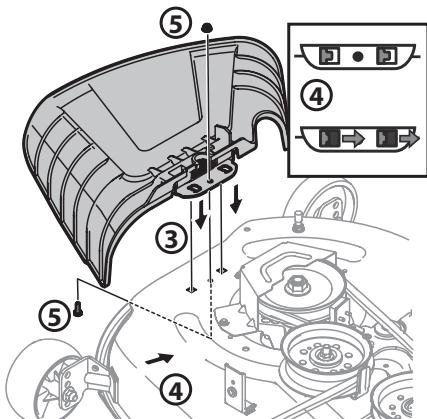

Figure 8
3. Place the chute deflector on the deck, be sure to insert the tabs on the chute deflector into the holes on the deck. See Figure 8.
4. Slide the chute deflector toward the rear of the tractor until the bolt hole in the chute deflector aligns with the hole in the deck. See Figure 8.
5. Secure the chute deflector in place with the flange lock nut and hex screw removed in Step 2. Tighten to 102-124 in-lbs (12-14 N·m). See Figure 8. Skip ahead to Setting the Deck Wheels.